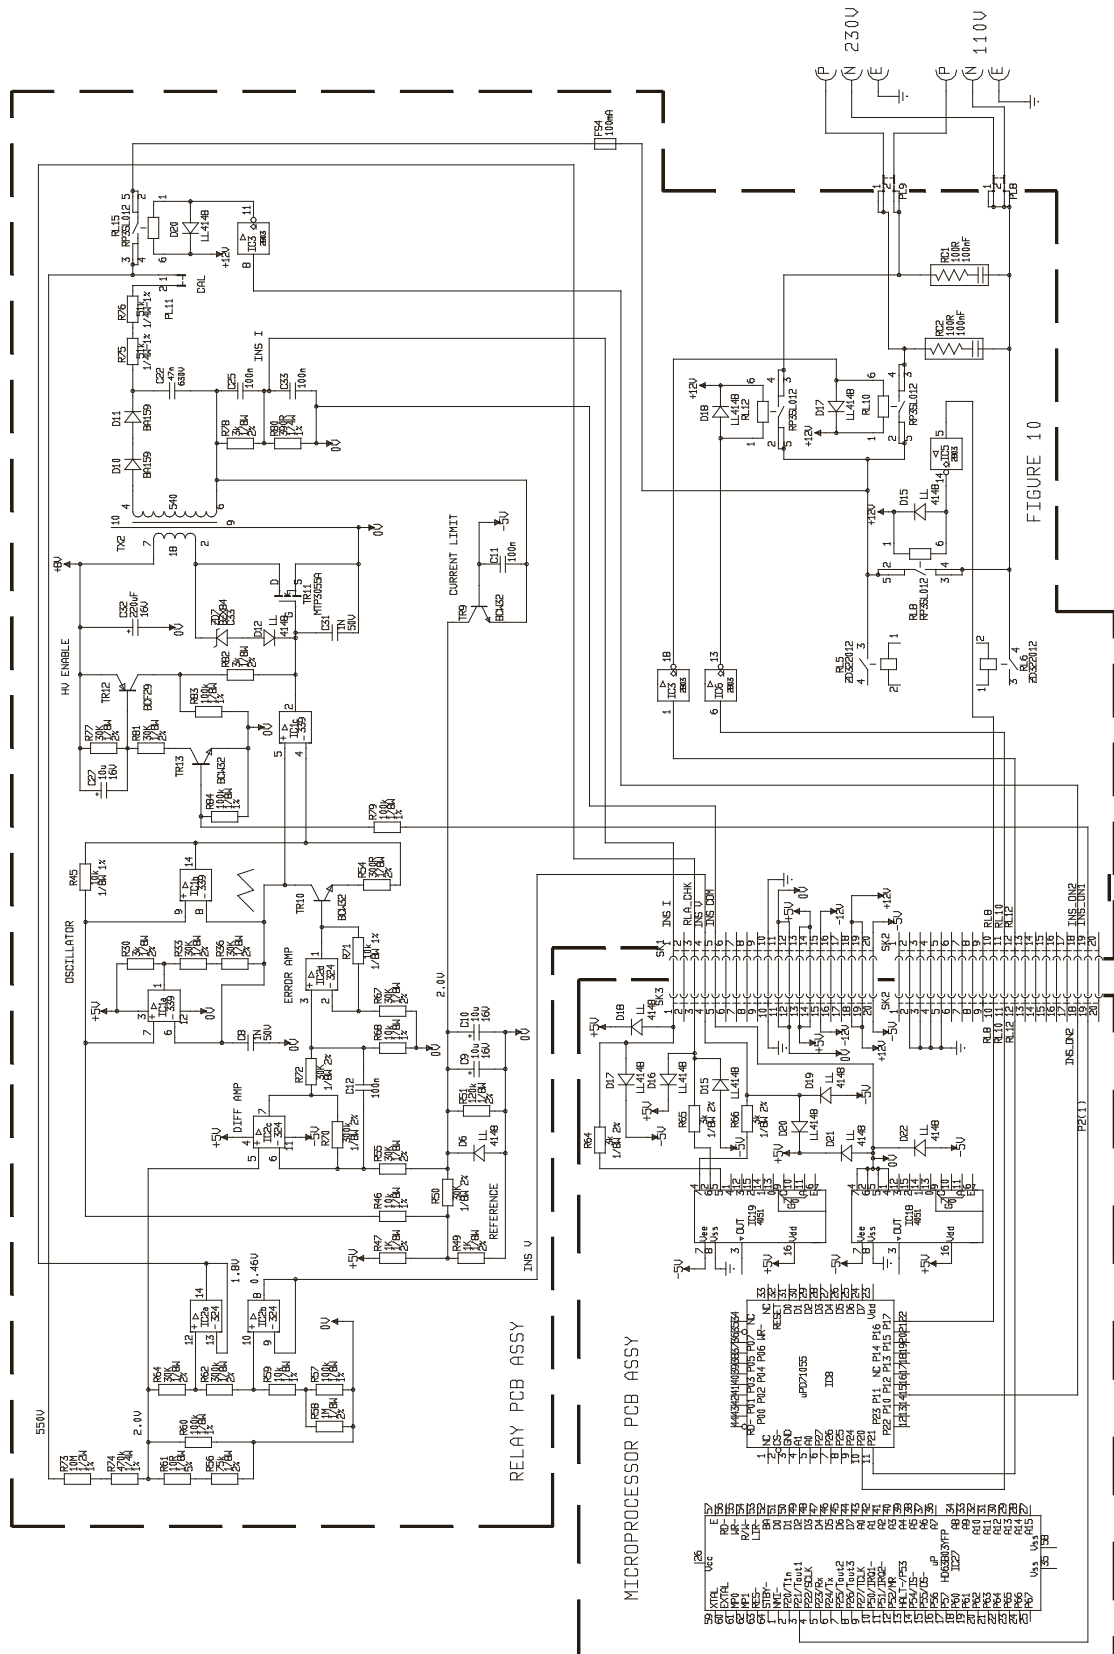

Figure 10.
Reference should be made to **figure 10**. During an Insulation Test 500 Volts DC is supplied between the Earth conductor and Live and Neutral conductors Strapped together. In the above configuration a measurement of current flow and applied voltage is made. Using these parameters a value of Insulation Resistance is calculated.
The voltage source for the insulation range is derived from a DC to DC converter arrangement shown on **figure 10**.
Resistor R80 connected in the low potential end of the Insulation Transformer secondary is used as a current shunt to enable the test current to be measured in terms of a voltage. This signal is transferred to the PAT4DVF "Microprocessor PCB" via SK1 pin1. Multiplexer channel (05) being the destination of this signal, which as shown on *figure 10*. is connected to IC19 pin 5.
The output from this buffers is transferred to the PAT4DVF "Microprocessor PCB" via SK1 Pin 4. Multiplexer channel (07) being the destination of this signal, which as shown on **figure 10**. is connected to IC19 pin 4 .
During the PAT4 power up sequence a check is made to ensure that the power relays RL5 & RL6 are not welded closed. This function requires that the microprocessor tests for 230V (or 110V) on the normally open side of power relays RL5 & RL6. This is achieved by using the insulation test voltage attenuator chain, which is further sub divided to provide the voltage at IC2a Pin 12. This voltage which is, 1:0.93 the 2.0V present at IC2c Pin 5 is buffered by IC2a to provide the signal labelled "RELAY_CHK". This signal is transferred to the PAT4DVF "Microprocessor PCB" via SK1 Pin 3. Multiplexer channel (05) being the destination of this signal, which as shown on **figure 10**. is connected to IC19 pin 2. To enable this test to function the inverter circuit is inhibited and relay RL15 closed after which a measurement of "RELAY_CHK" is made. This tests RL5 but to test RL6 the test must be repeated but with relay RL8 also closed.